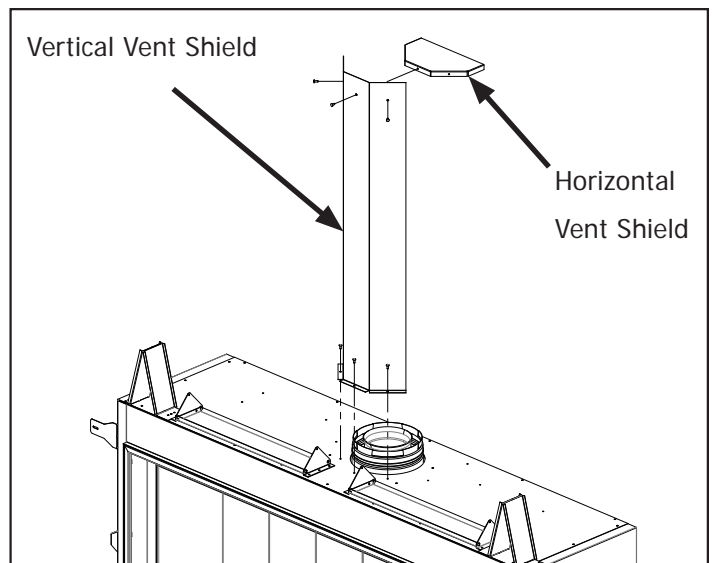

Figure 46: Vent Shielding Install
**IMPORTANT:** All installations must include the vertical vent shield. The horizontal vent shield is only installed if the fireplace is horizontally terminated with the minimum vertical rise of 24". If more than 24" of vertical rise is used in the vent configuration no horizontal shield is needed. See Figure 46 for shield install. Screws are pre-installed in cabinet and horizontal vent shield. Use a T-20 screwdriver or drill driver to remove screws then install shields.